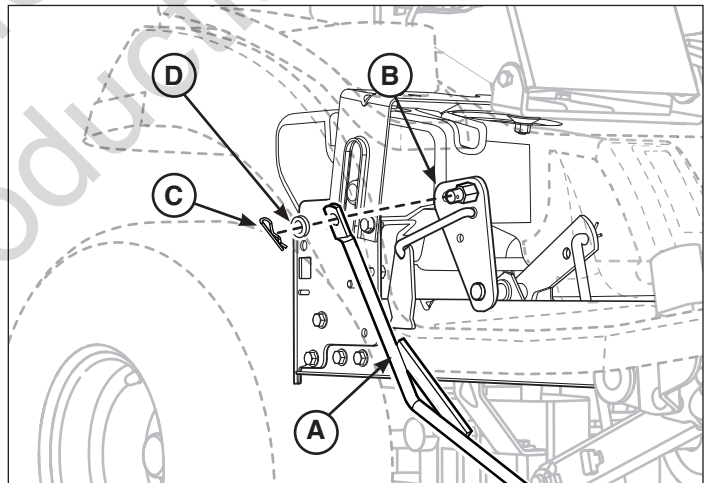

Figure 24
5. Remove lift arm assembly (A, Figure 24) from the mower lift arm (B) by removing the hair pin (C) and flat washer (D).